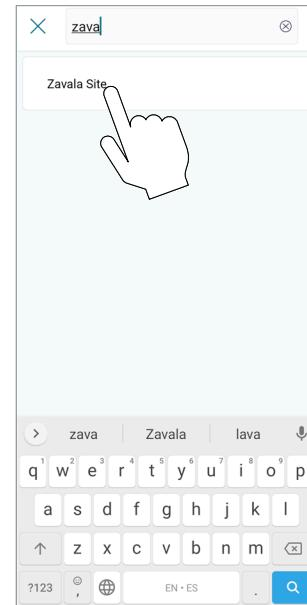

**Figure 134. Switch Organization**
2. On the main menu, click on the “Organization” option. See **Figure 134**.